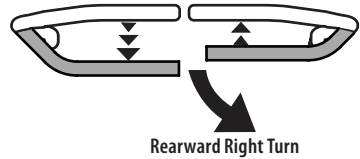

Fig. 26
2. To turn to the right while traveling in reverse, move the right drive control lever forward of the left drive control lever (Fig. 26).